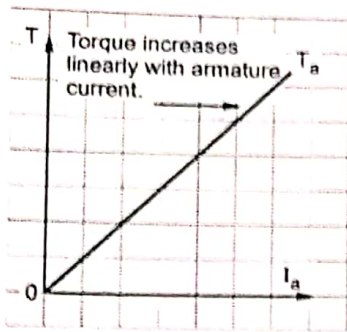

Fig. Q.47.1 T Vs I_a for shunt motor
• The equation represents a straight line, passing through the origin, as shown in the Fig. Q.47.1.